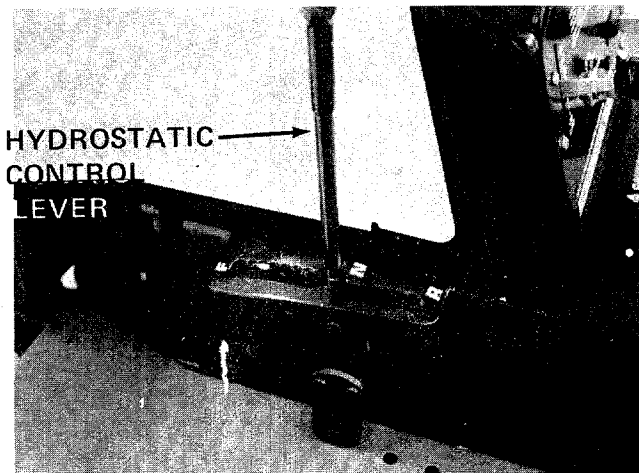

FIGURE 11.
A single control lever connected to the hydrostatic transmission controls both the speed and direction of the tractor. Infinite speed control is achieved by moving the control lever forward or backward. The farther forward or backward you move the control lever the faster you will travel. Pulling the control lever into neutral (N) area will stop the tractor. To increase rear wheel torque (pulling power) move the control lever towards neutral (N) position. The lawn tractor responds similar to shifting to a lower gear with a gear type transmission. See figure 11.